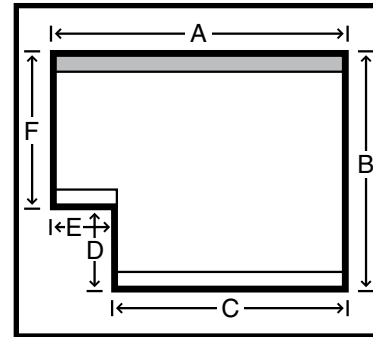

Figure 3 Edge Cut Out
- Edge cut out blinds (Figure 3) will have two bottom rails.